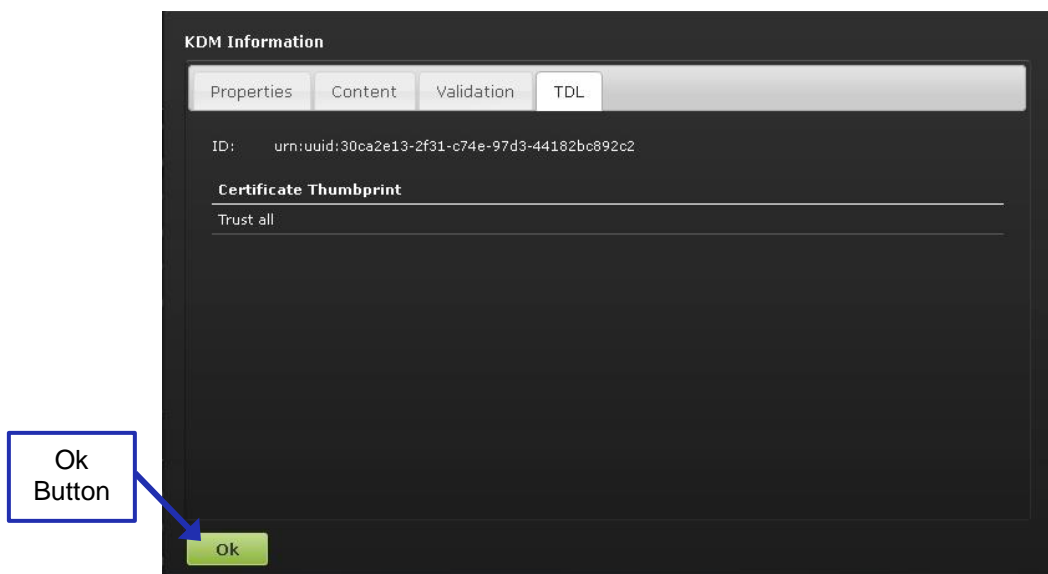

Figure 296: TDL Tab
- The TDL tab contains the list of the trusted devices (projectors) and their certificate thumbprints (Figure 296).
Clicking on the name of a KDM will open the KDM Information tab. See Section 13.10.2.2.4 for more information on the KDM Information tab. Any time the user wants to exit the KDM Information window, click on the Ok button (Figure 296).